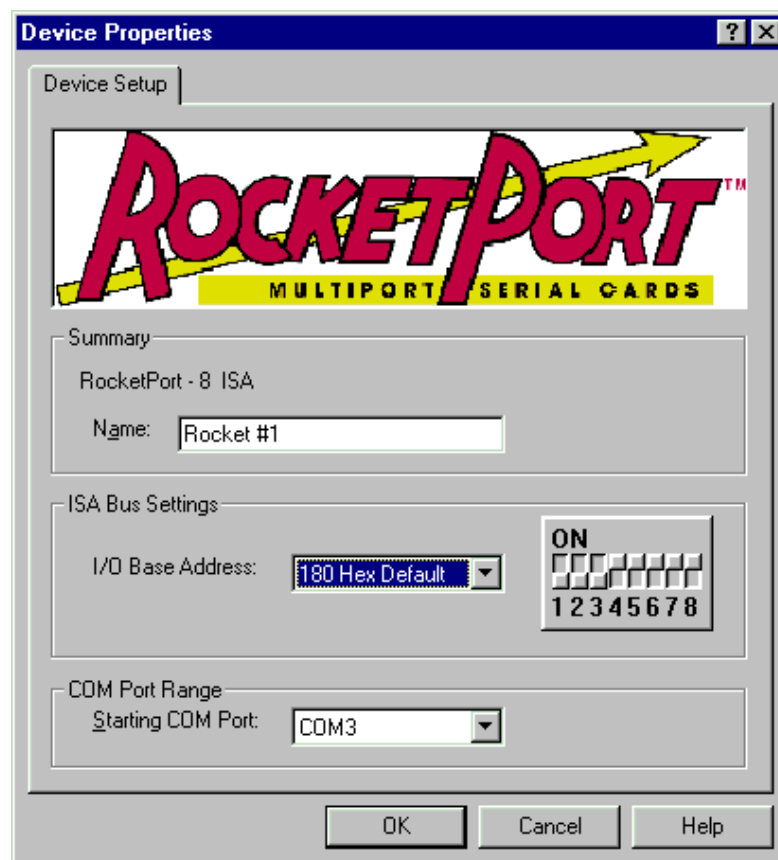

Figure 8. Select COM3 as the starting port.
13. Ensure that the Starting COM Port is set to **COM3** and that the I/O Base Address is set to **180 Hex**, then click **OK** to close the Device Properties dialog box (see Figure 8).